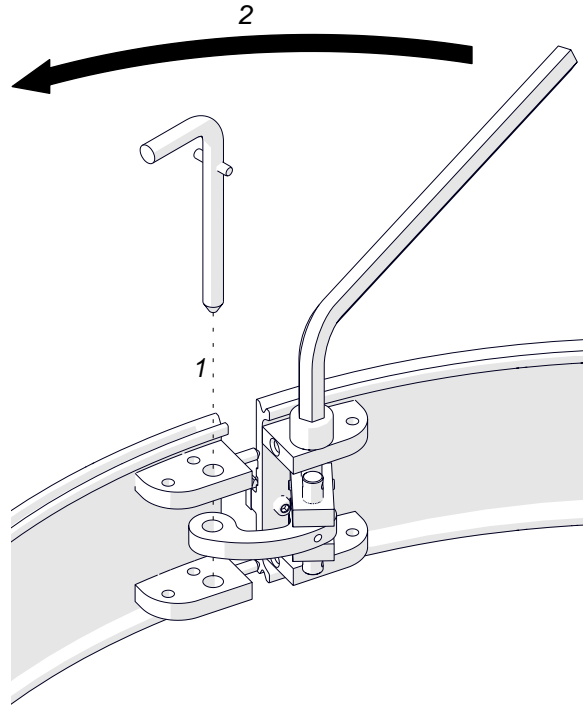

Fig. 4. Connecting the rails of the ring track
Put the workpiece vertically, and then put the rails onto the workpiece so that the teeth of the racks point down. Next, for all rails, use the 12 mm hex wrench to set the hinge as shown in Fig. 4. Then, put the lock pin through the holes (1), and then rotate the wrench (2) to connect the rails.